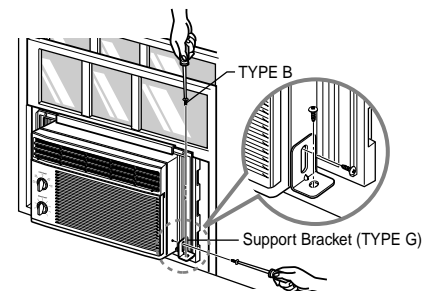

Figure 32
- Fasten the support bracket (TYPE G) using a removed screw. Attach the support bracket (TYPE G) in the inner window sill with a screw (TYPE B), as shown Fig. 32.